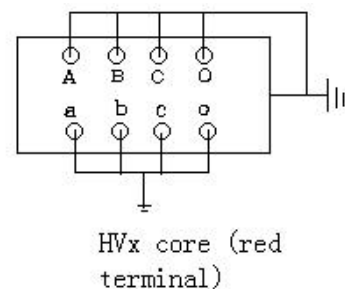

Figure 14 Connection of transformer
(3) Secondary winding to primary winding and ground
- A. See Figure 14